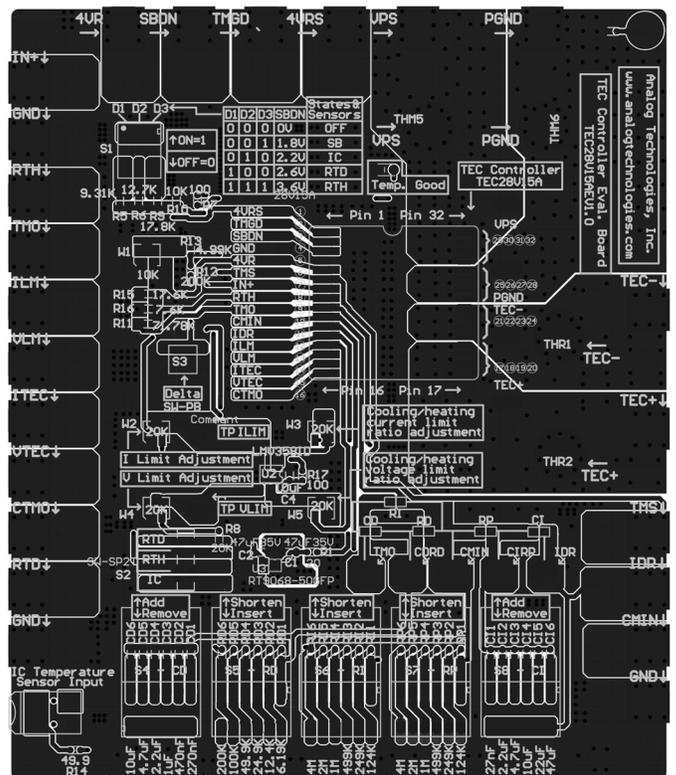
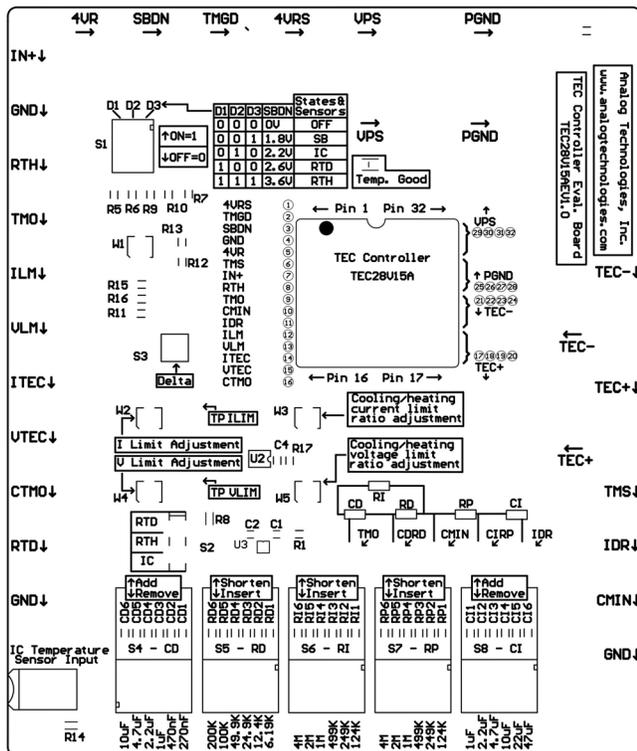

Figure 2. Top Silkscreen Layer with Other Top Layers
Figure 6. Top Silkscreen
The silkscreen layer of the evaluation board is shown in Figure 2 with other top layers, including top silkscreen, top copper, top solder mask, and multilayer (vias). Figure 6 only shows the image of top silkscreen layer. There is no component in the bottom side of the board, so that there is no bottom silkscreen layer image.
There are 3 terminal blocks also located on the left, top and the right side of the board, their connectors are for the same nodes of the solder pads. See the silkscreen image in Figure 6.
2. When using RTH sample hold mode, connect R15 to pin 4VRS. Turn the S2 switch to RTH, and then turn S1 to RTH. The SBDN voltage is 3.6V. See Figure 6.
3. After tuning, the values of the capacitors for C_D and C_I can be read off the capacitor selection switches. The values of the resistors, R_I , R_d and R_P , can be measured by an Ohmmeter by connecting to the resistor pins. As seen in the photo of Figure 6, R_I can be read off between TMS and CMIN test points; R_D can be read off between CMIN and CDRD test points; R_P can be read off between CMIN and